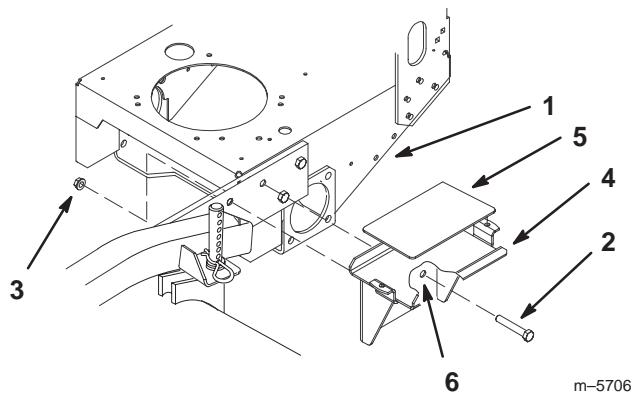

Figure 14
5. Mount battery holder to the left side of machine with 2 bolts (1/2 x 1-3/4 inch) and 2 nuts (1/2 inch) (Fig 14).
6. Peel off the backing from battery pad and affix the pad to the battery holder (Fig 14). The rubber battery pad should be centered on battery holder.